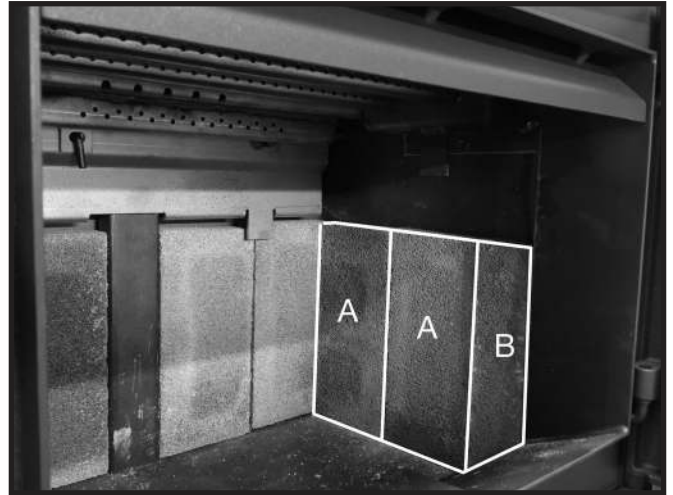

Figure 14: Lower side wall firebricks in place.
2. For the side walls: Stand an "A" firebrick against the side wall and up against the rear wall firebrick. Stand another "A" brick beside the first one followed by a narrow "B" firebrick (Figure 14).